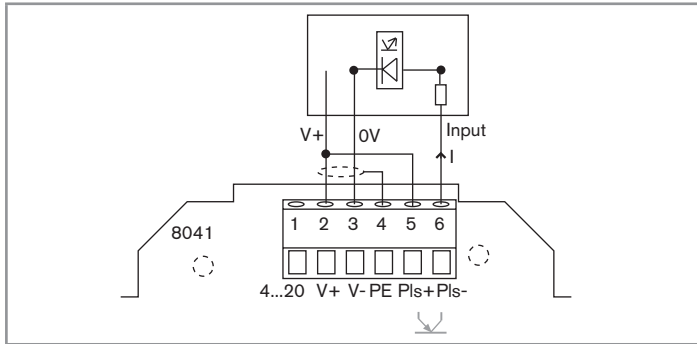
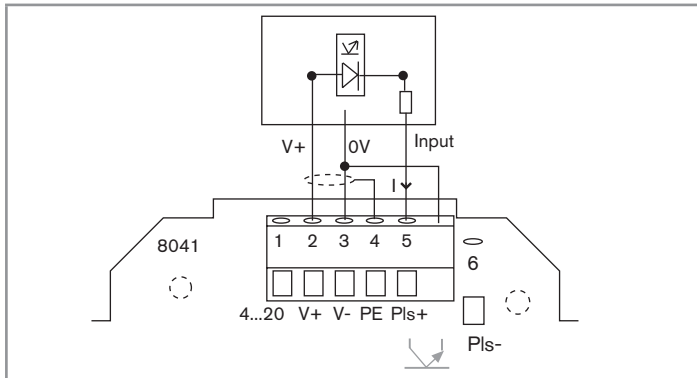

Fig. 20: PNP connection of the frequency output to a PLC
Fig. 21: NPN connection of the frequency output to a PLC
- to a PLC in PNP or in NPN mode (see Fig. 20 and Fig. 21);